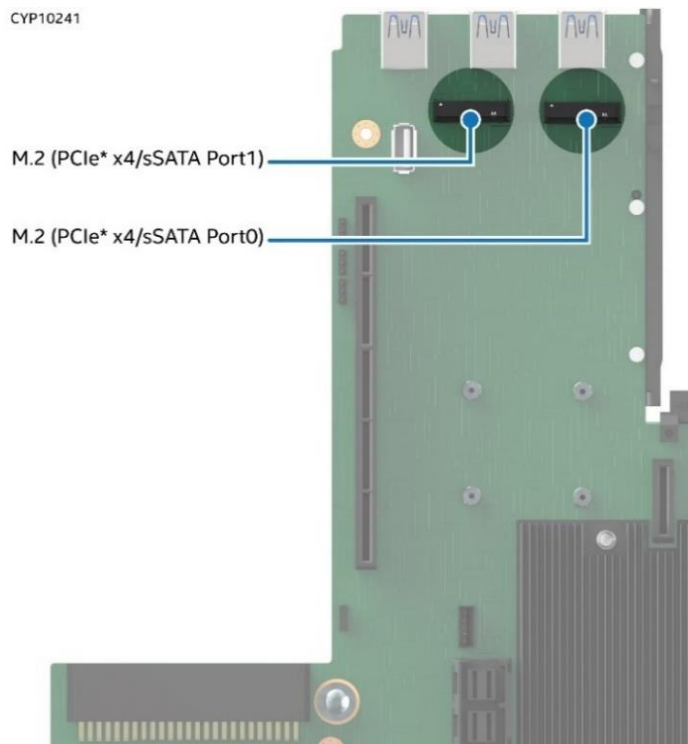

Figure 69. M.2 SSD Connector Location
5. Locate the M.2 SSD Port 0 (see Figure 69). Refer to Section 5.4, "Server Board Features" for the location.